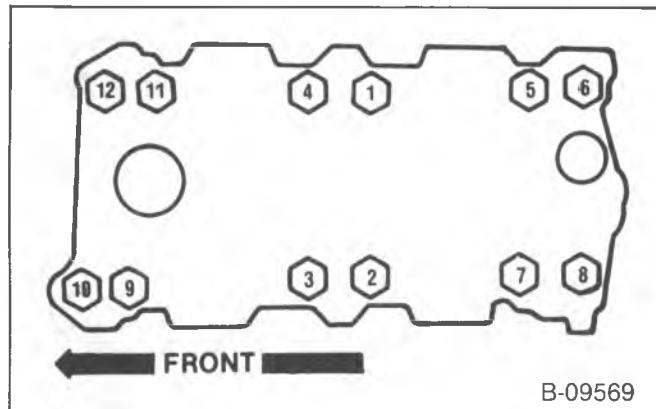

Figure 75—Intake Manifold Bolt Tightening Sequence
- Bolts to 48 N·m (35 ft. lbs.). Use the tightening sequence shown in figure 75.